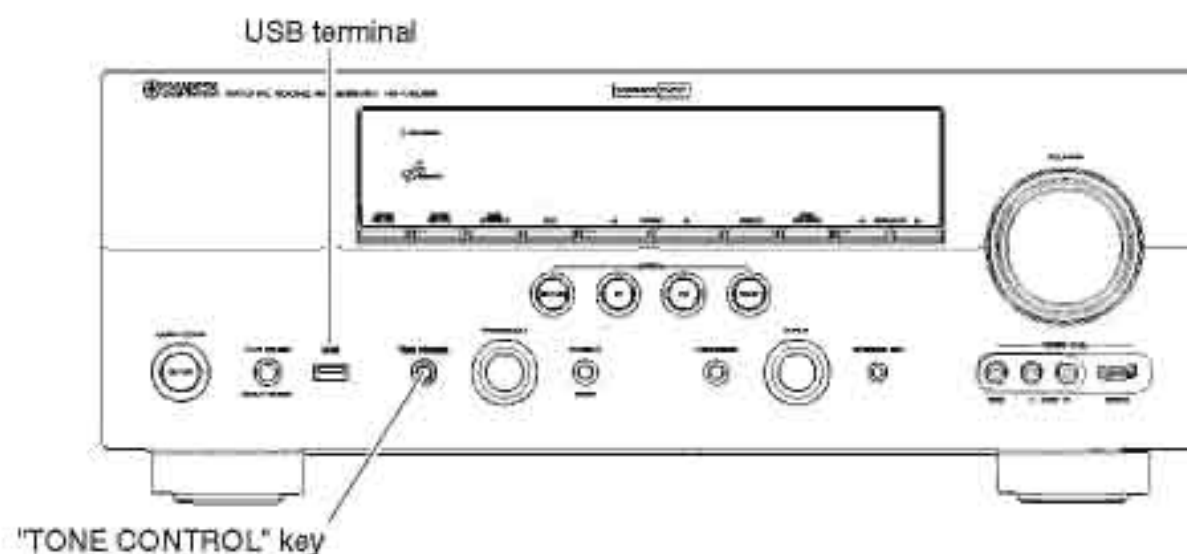

Fig. 2
1. Insert the USB storage device to the USB terminal located on the front panel of this unit. (Fig. 2)
2. While pressing the "TONE CONTROL" key of this unit, connect the power cable to the AC outlet. (Fig. 2)